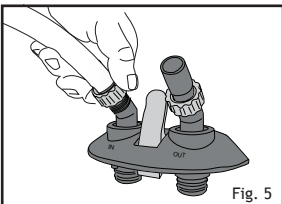

Fig. 5
11. Push one end of the hose down onto the hometail and screw the collar up (anticlockwise) over the hose. Repeat for second hometail. Do not overtighten, hand tight is sufficient. Fig 5